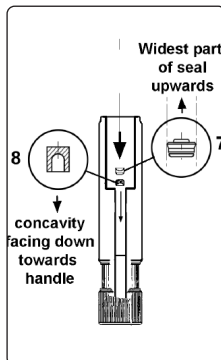

fig.5
- 6.3.5. Take the small seal and piston (fig.5.7 & 8) and gently push them down the narrow bore of the cylinder ensuring the metal piston (8) is first, with the concave face pointing in the direction of the T-handle, and the seal (fig.5.7) second, with the widest part of the seal facing upwards towards the main cylinder (fig.5). Push into bore as far as possible.